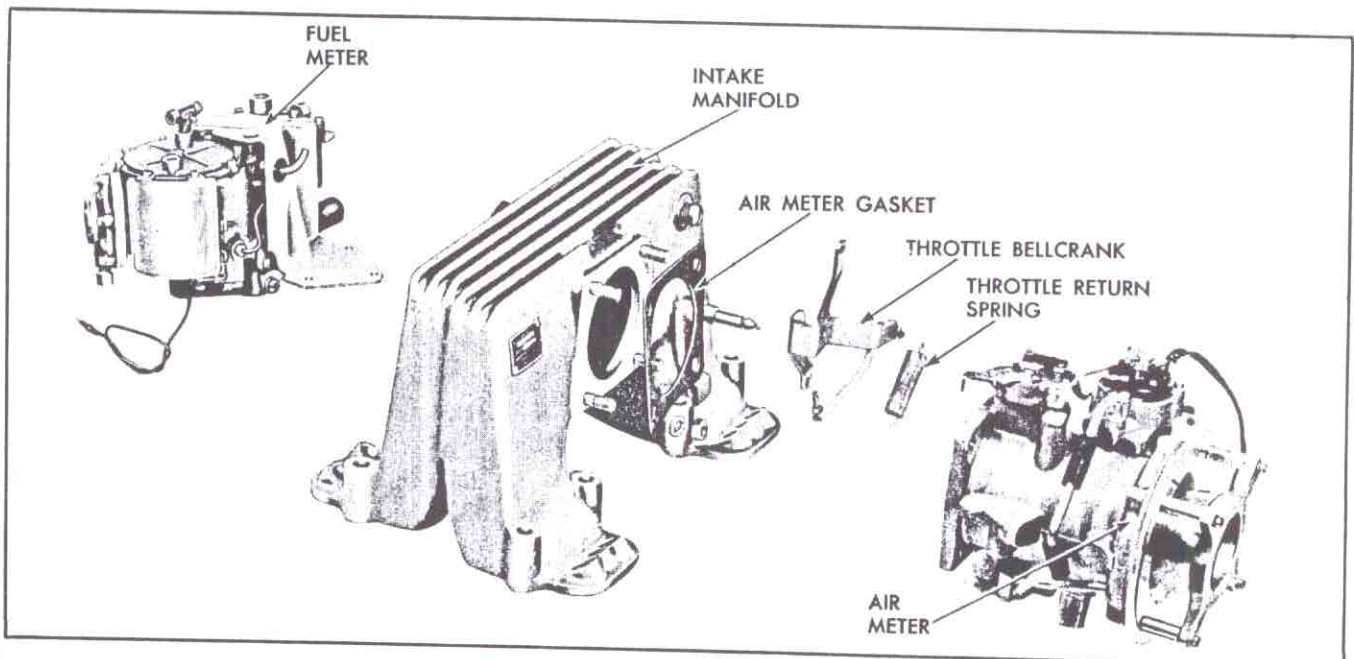

Fig. 96—Fuel Injection Components
Three basic assemblies comprise the G.M. fuel injection system (fig. 96). These are (1) the fuel meter, (2) air meter, and (3) the intake manifold. Let's look at the roles of each of these units.